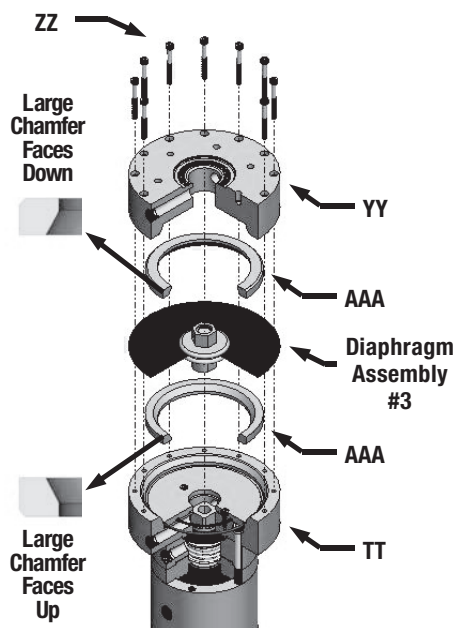

Figure 30
- B. For a Middle Gain Pilot (Figure 30), follow Step 50A, except, add the Middle Gain Rings (AAA) on both sides of Diaphragm Assembly #3. Take special note of the orientation of the chamfer on each of the Middle Gain Rings (AAA) shown in Figure 30. Move to Step 51.